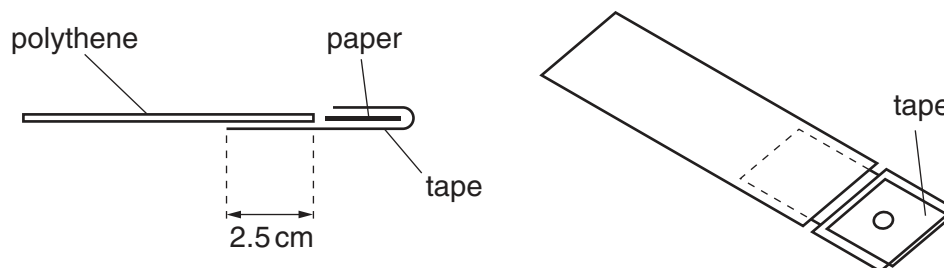

Fig. 2.2
- A paper square should be attached using adhesive tape to one end of each polythene strip as shown in Fig. 2.2.